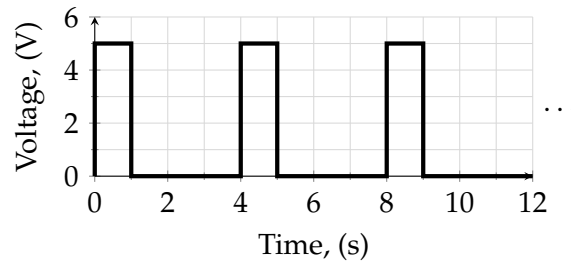

Figure 2.4: Example duty cycle waveform.
4. For the rectangular wave shown in figure 2.4, 5 V will be defined to be the operating state. What is the duty cycle (%) of the wave?